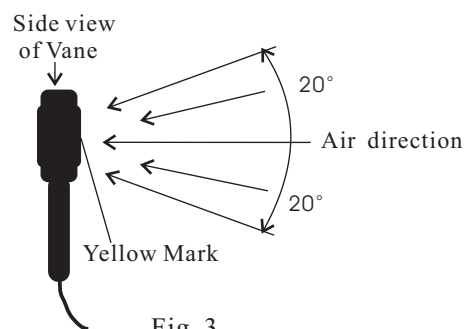

Fig. 3
- b. Place the sensor in the air current with the yellow dot side of the vane facing the air flow (see Fig.3)
- c. Place the sensor in the air current with the yellow dot side of the vane facing the air flow (see Fig.3)
- d. Place the vane in the air flow (Fig.3). Wait approximately 2 seconds for a stabilized Air Flow reading. The equation below is used to calculate Air Flow: